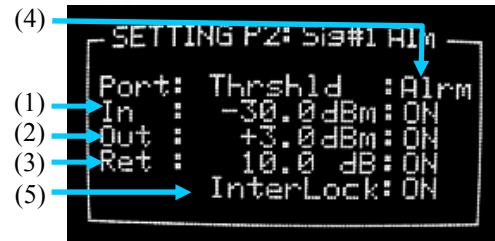

Fig.10 SETTING P2 (e.g.)
6.3.2 Page2: SigAlarm details (Fig.10)